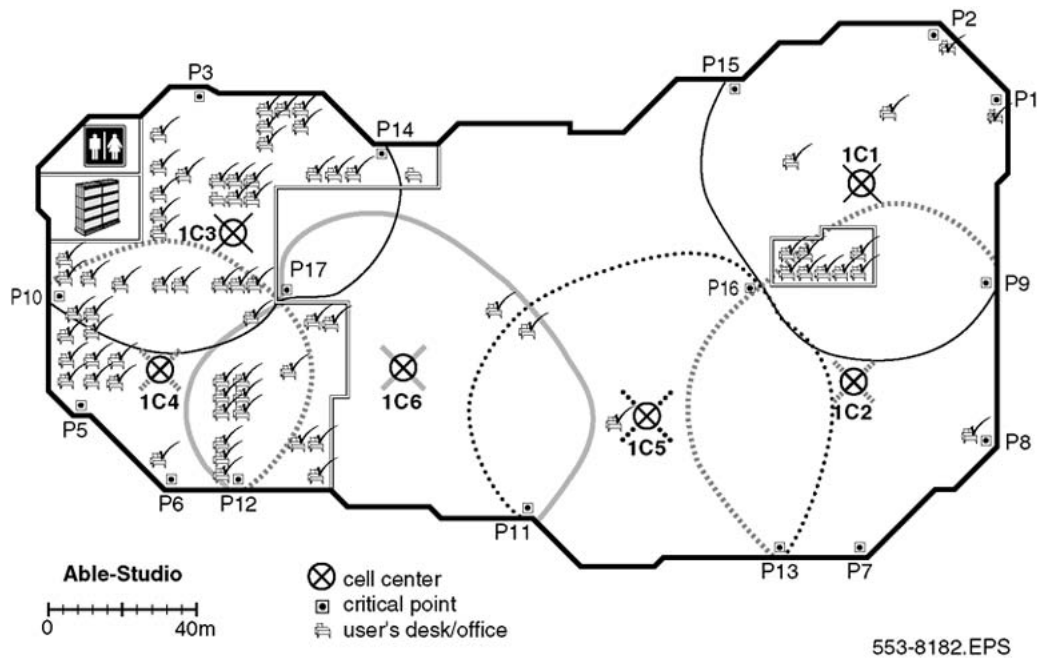

Figure 30: Example of cell center boundary 1C6
- a new boundary based on cell center 1C6 in Figure 30: Example of cell center boundary 1C6 on page 58